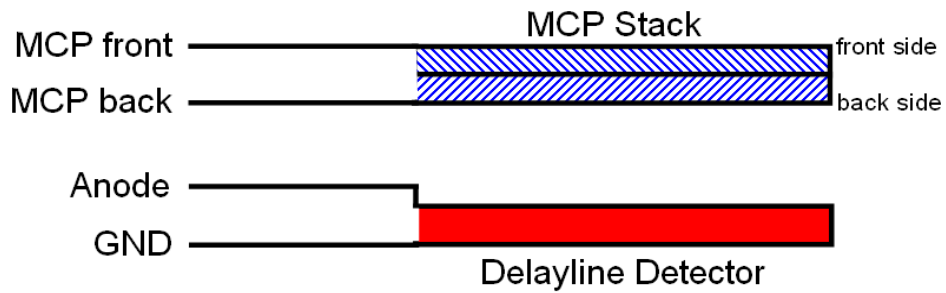

Figure 7: Internal connection of high voltage potentials [schematic]
The high voltage potentials for the delayline detector: MCP front (F), MCP back (B) and anode (H) as well as for the mini lenses: front lens (LV), middle lens (LM) and back lens (LH) are written directly on the SHV feed-throughs. The internal high voltage connection for the delayline detector is given schematically in Figure 7.